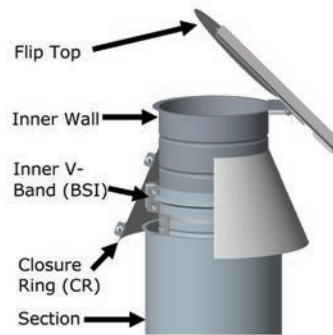

Figure 69 - Flip Top (FT) installed
the uppermost chimney pipe section with a inner V-Band (BSI) (See **Step 1 to 4 in the JOINT ASSEMBLY Section**). For Models CAX1, CIX1, CIX2 and CIX4, a Closure Ring (CR) is provided to protect the insulated space between standard pipe inner and outer. If a FT is installed on a horizontal termination, the hinged side of the top must be oriented at the top of the pipe keeping the counterweight up. The CR must be seal to the inner wall with outer Sealant **S-375**. See **Figure 69**